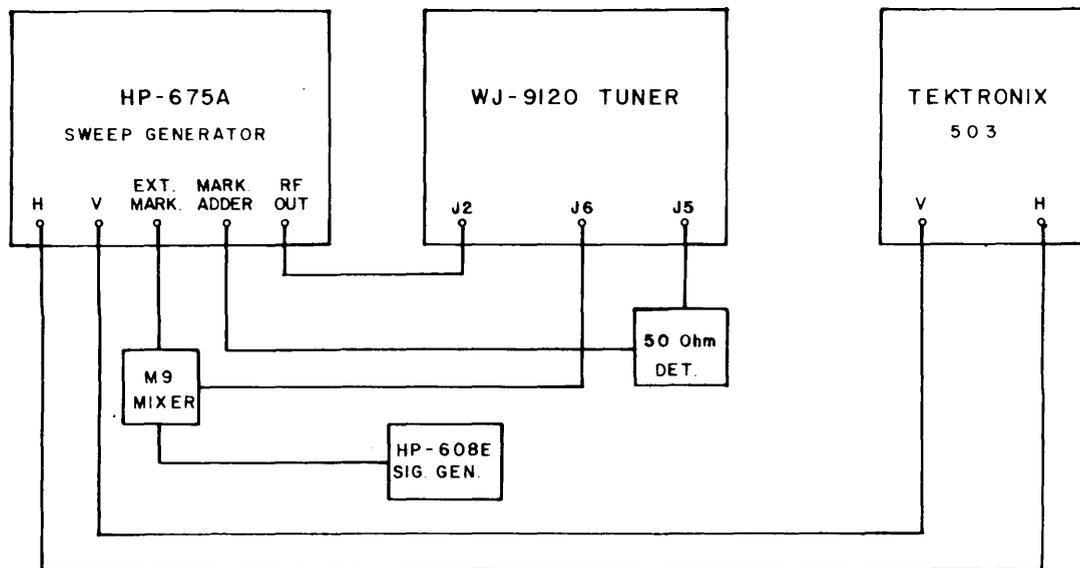

Figure 4-6. Equipment Connections, 21.4 MHz IF Amplifier
- (2) Connect the test equipment as illustrated in Figure 4-6.